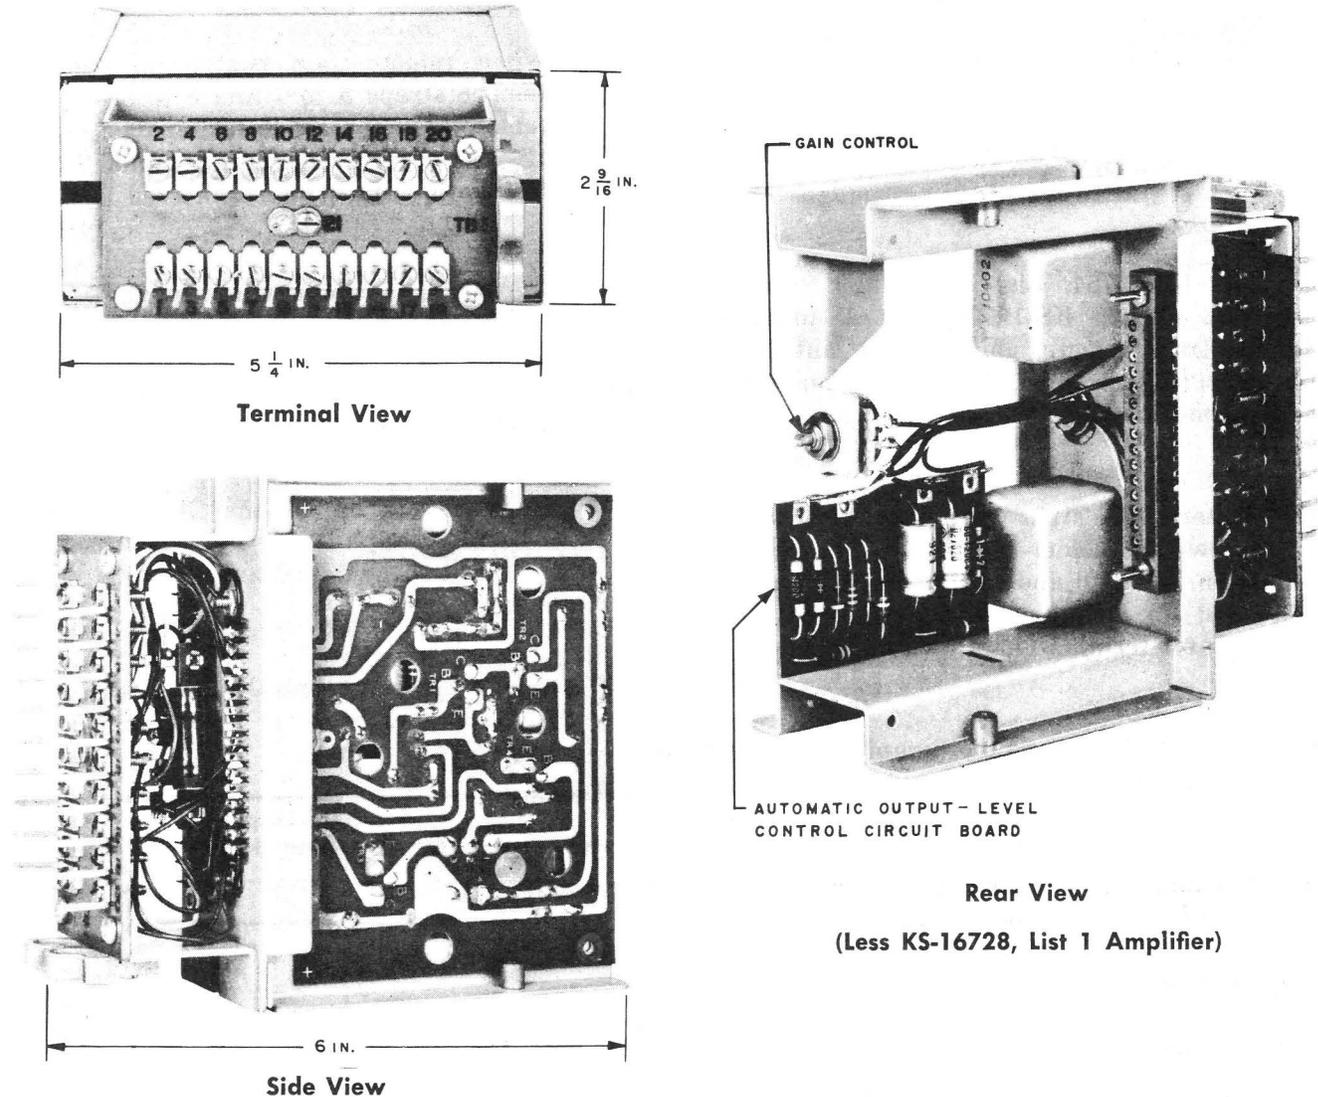

Fig. 1 — KS-16754, List 1 Amplifier
1.01 The KS-16754 amplifier is a general purpose transistor amplifier designed for relay rack mounting. Fig. 1 shows list 1 amplifier. List 2 amplifier is similar in appearance except that it does not have the automatic output-level control circuit card.